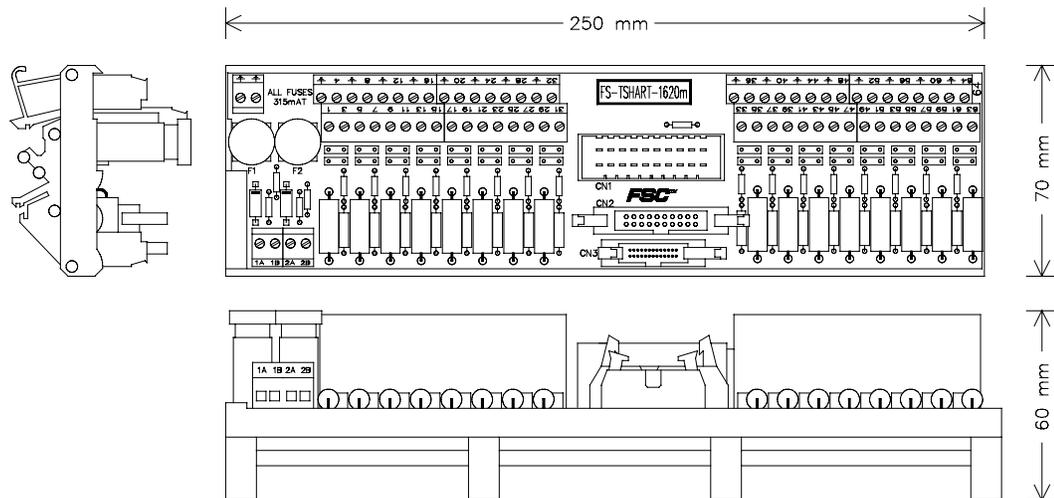

Figure 1 Mechanical layout
- Connector on FTA: CN2 (see figure 1)
- Connector on FTA: CN3 (see figure 1)